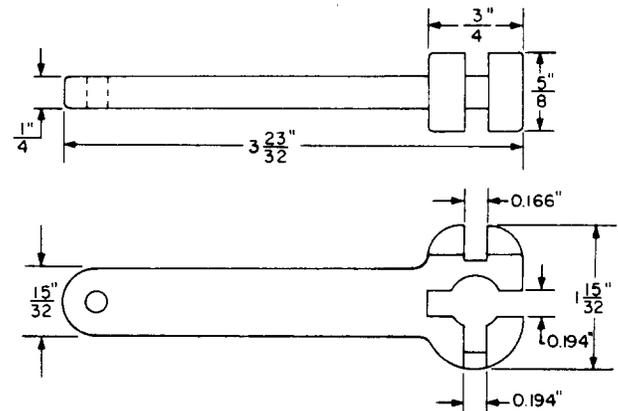

Fig. 1—AECO H-7057 Adjuster Tool
2.01 **AECO H-7057:** The AECO H-7057 tool (Fig. 1) is a wiper-shaft aligning wrench used on 197- and 198-type switches.